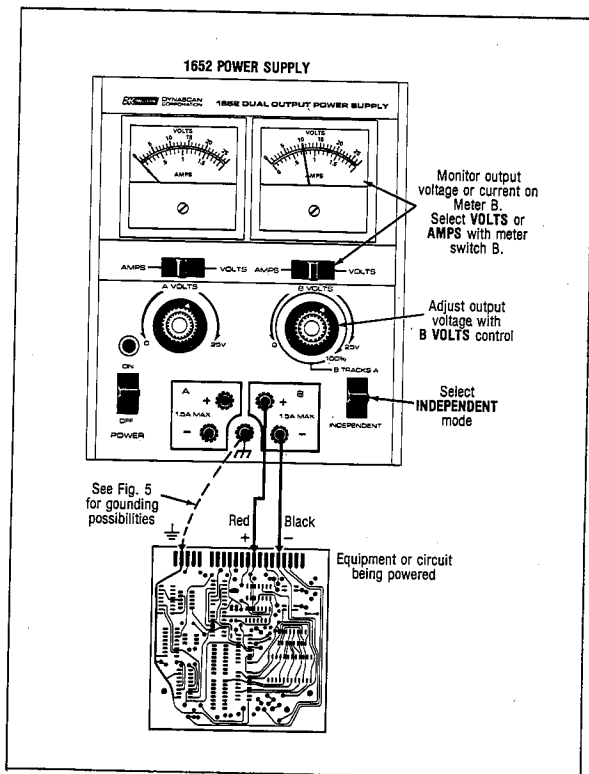

Fig. 6. Typical Use of B Supply.
INDEPENDENT USE OF "B" SUPPLY (Refer to Fig. 6)
3. Connect the positive and negative polarity of the circuit being powered to the (+) and (-) terminals of the B supply, respectively, as shown in Fig. 6.